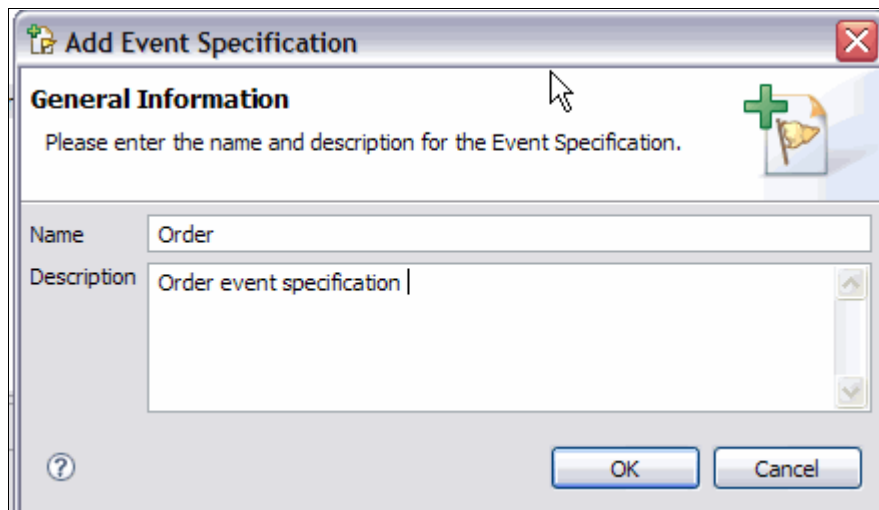

Figure 5-47 Add Order event specification
2. In the “Add Event Specification” window, enter (Figure 5-47) the following values: